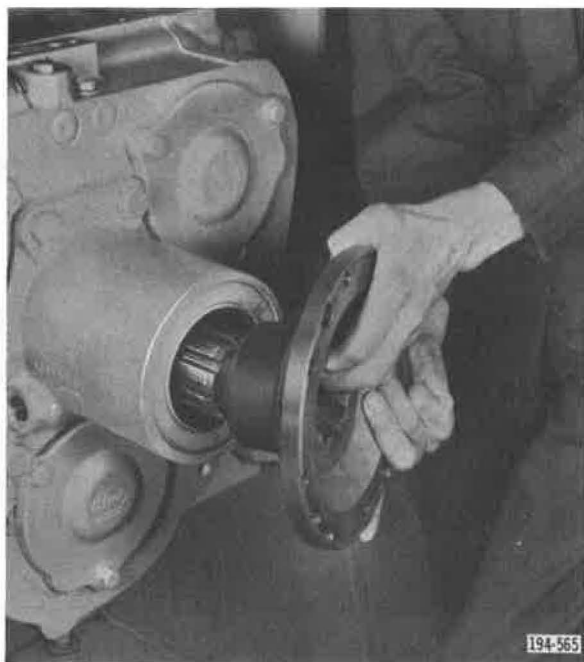

Figure 5-975. Installing Drive Flange
5. Install drive flange (or yoke) on rear mainshaft splines. See Figure 5-975.